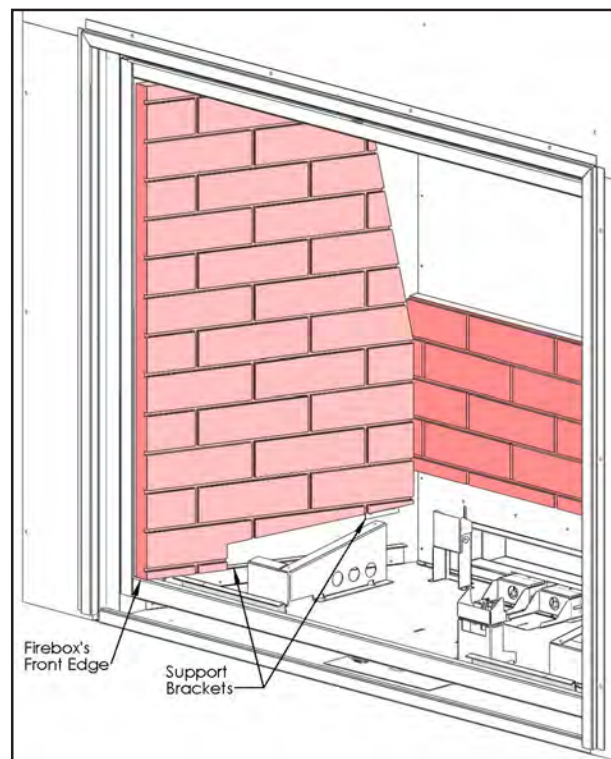

Figure 9: Left Firebox Liner Panel on Front Edge
- 2) Install the Left Firebox Liner Panel; it sits on the bottom front edge of the firebox (see Figure 9), a support bracket at the lower rear of the firebox, and is held in by a retainer at the top of the firebox. Adjust the panel retainers as required.